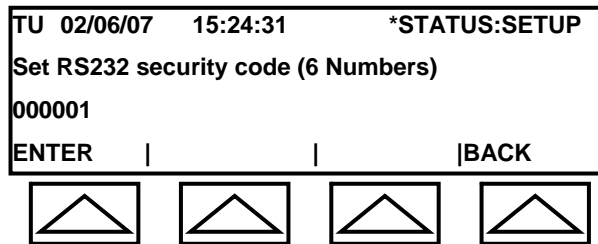

Fig. 4-14l: COM3 -- Security
The screen will appear as in Figure 4-14l.
5. In the Modem Submenu (see Figure 4-14l), select DROP DATA, VLD DATA, ALARM DATA, or SHIFT DATA.